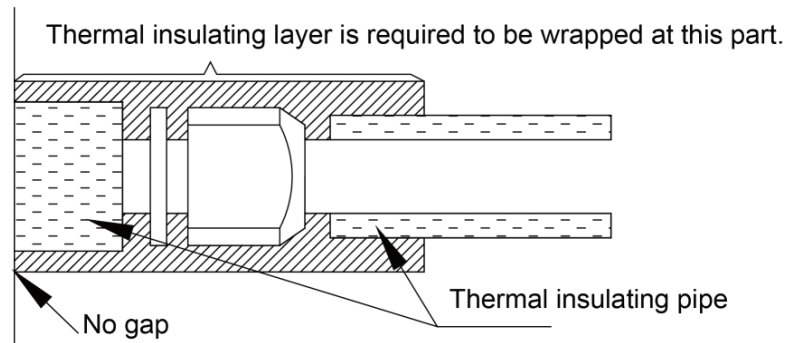

Fig.4.3.12
- 3) Joints of indoor and outdoor unit should be wrapped with insulating material and leave no gap between pipe and wall. See Fig.4.3.12.